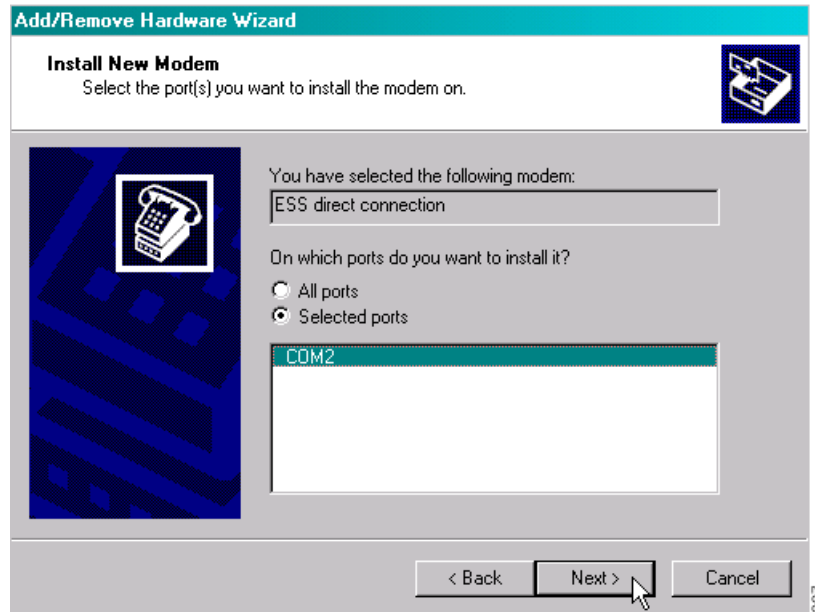

Figure 8. Setting local port of the RMC to COM2.
- 6 Select the communication port where the direct line shall be connected to the PC, in this example "COM2" as in figure 8 below.